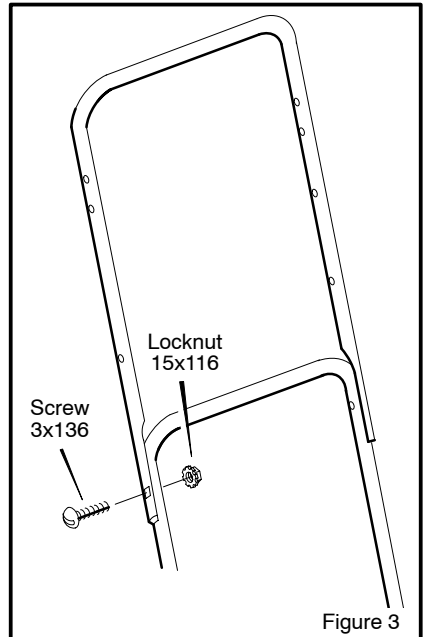

Figure 3
3. Assemble the upper part of the handle to the lower part with the **screws** and **lock-nuts** (Figure 3).